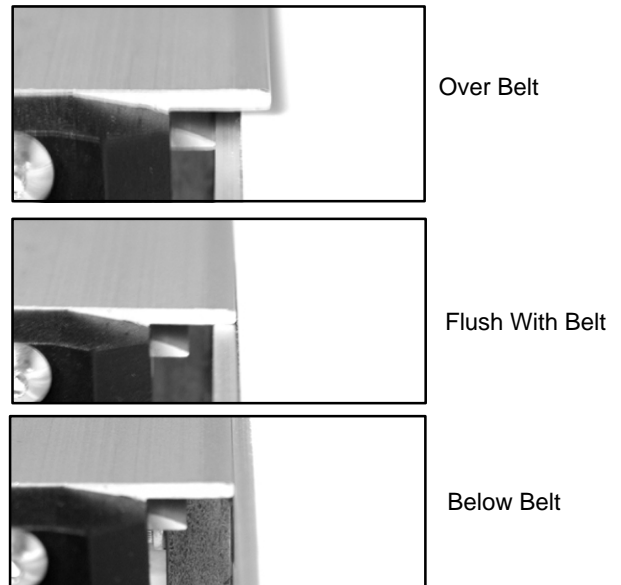

Figure 16
**NOTE:** Table has multiple height positions. See Figure 16 for examples.